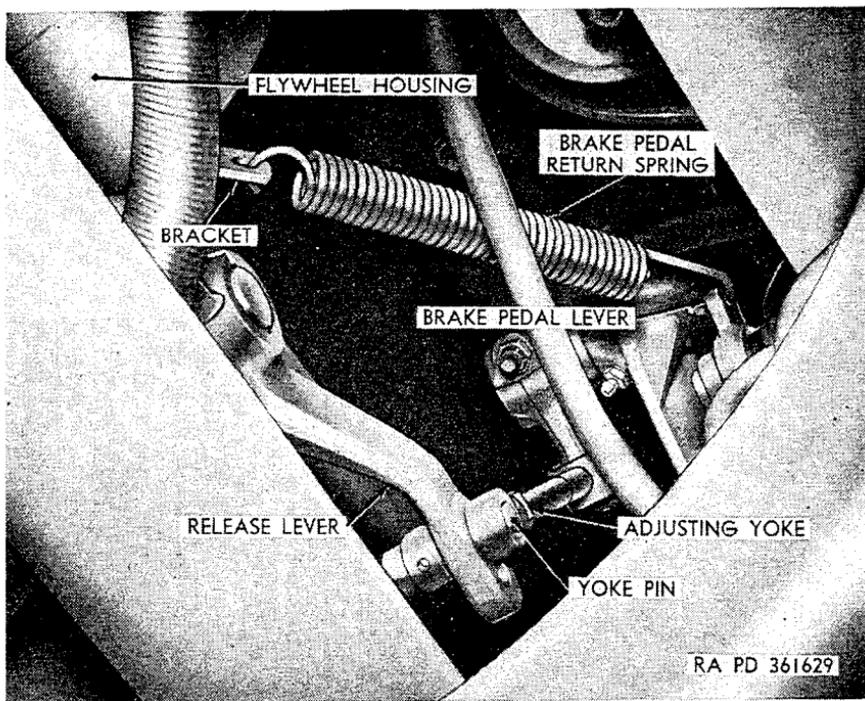

Figure 142. View of clutch linkage from under side of vehicle.
- (3) *Disconnect clutch linkage* (figs. 142 and 143). Pull outward on clutch-control-rod-adjusting-yoke pin at lower end of clutch control rod and remove adjusting yoke from clutch release lever.
- (5) *Disconnect brake pedal return spring* (fig. 142). Disconnect brake pedal return spring from bracket on left rear side of engine flywheel housing.
(4) *Connect clutch linkage.* Position yoke on lower end of clutch control rod over clutch release lever and secure with yoke pin (fig. 142).
(5) *Connect brake pedal return spring.* Insert lower end of brake pedal return spring in hole in bracket (fig. 142) on left rear side of engine flywheel housing.